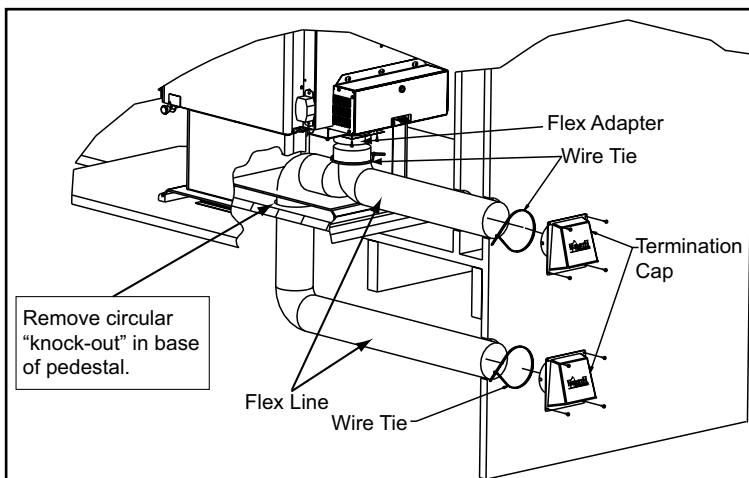
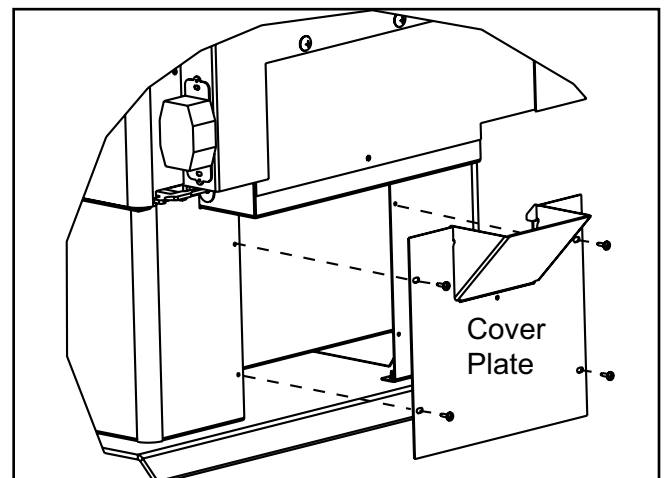

Figure 12.1 - Floor & Rear Installation
Figure 12.2 - Floor Installation Alternative
Included in SRV7033-041: Cover plate and sealing rope (see Floor Installation Alternative below, **Figure 12.2**)
2. Using a #2 Phillips screw driver attach the flex adapter to the stove using 4 screws. **Figure 12.1.**
5. **Floor Installation Alternative:** In some instances you may not be able to install the flex pipe as show in **Figure 12.1**. If that is the case, you will need to order SRV7033-041 which includes a cover plate and sealing rope as shown in **Figure 12.2**. The goal is to seal the pedestal so no room air can leak into the pedestal.